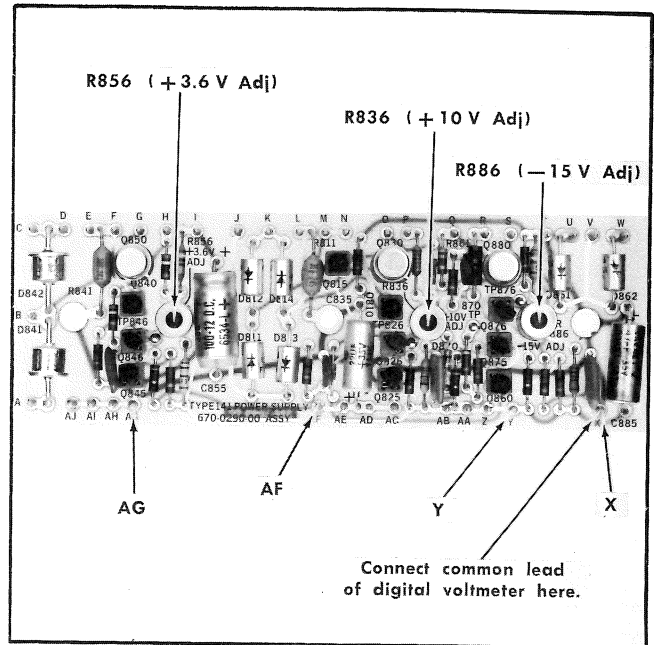

Fig. 5-2. Power supply board test point and adjustment locations.
- Connect the digital voltmeter leads between pins Y and X on the Type R141A Power Supply board (see Fig. 5-2).
- ADJUST— -15 Volt Adj , R886, (see Fig. 5-2) for -15 volts .